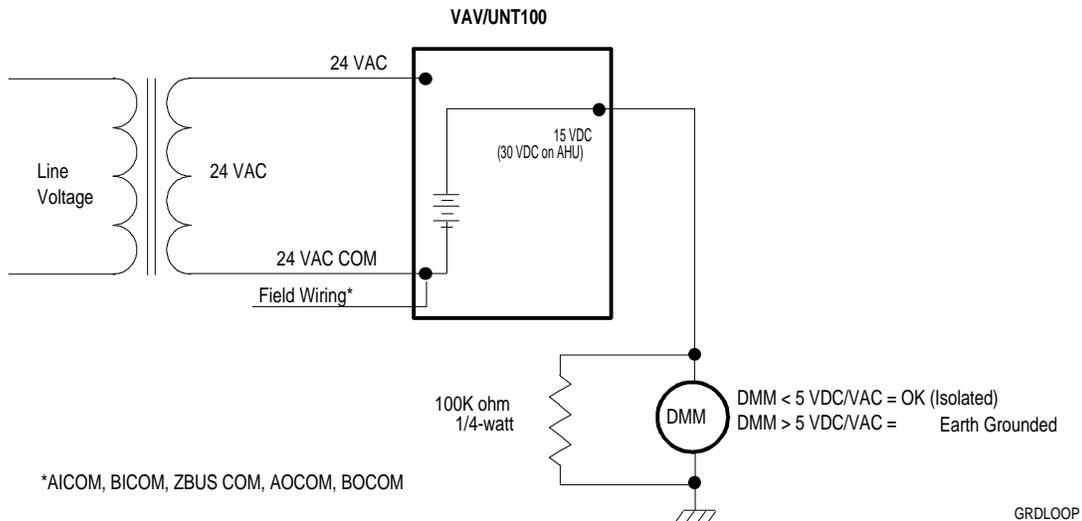

Figure 4: Testing for Ground Loops
Note: To provide the greatest assurance that the ASCs will communicate after initial installation, perform the earth ground test (Figure 4) and the N2 Bus polarity test (Figures 10 and 11).
5. Connect the leads of the DMM in parallel with the 100K ohm resistor from the DC power supply (+15 or +30 VDC) output terminal of the ASC to earth ground (Figure 4). This tests whether the field devices, the ASC, and the transformer “assembly” are properly isolated.